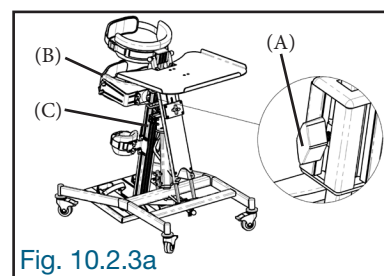

Fig. 10.2.3a
Slightly loosen the locking knob (A) on each side of the hip pad block (B), adjust the hip pad (B) height on the frame (C), and firmly tighten the locking knobs (A) (Fig. 10.2.3a).